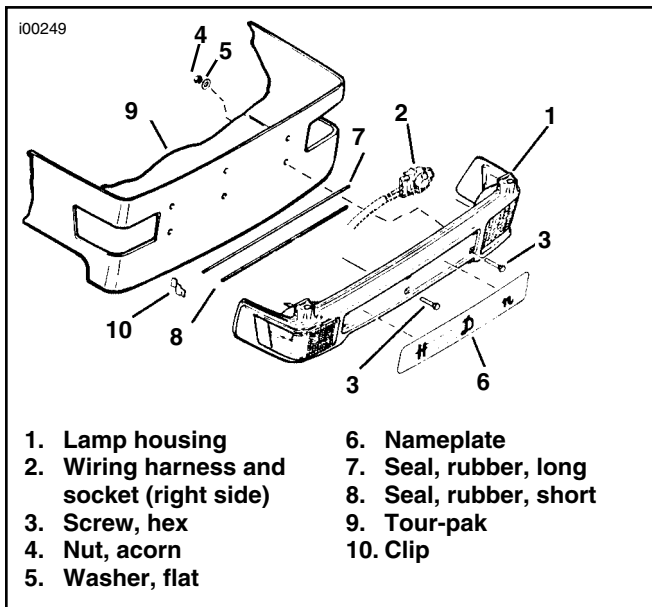

Figure 2. Wrap Around Light Assembly
8. If pockets are glued to backside of tour-pak, carefully pull the pocket piece free of tour-pak wall and discard. See Figure 2. Remove left lamp socket (2) from lamp housing (1) by depressing locking tab and rotating downward in direction of wire leads. Remove right lamp socket (2) from lamp housing (1) by depressing locking tab and rotating upward in direction of lead wires. Place lamp housing (1) in openings and press in tightly around both corners. Check to be sure there is clearance between each opening and lamp housing around entire perimeter. If there is interference, the housing will not fit correctly. Enlarge any interference area with a file.
13. See Figure 2. Insert the six hexagon screws (3) through holes in lamp housing (1) and tour-pak (9). From inside tour-pak, place a flat washer (5) on each screw and thread on an acorn nut (4). Tighten each nut (4) snugly, but do not tighten to where heads of screws turn inside square seat in lamp housing.
16. See Figure 2. Strip paper backing from Harley-Davidson name plate (6) and press into place over screw heads at lamp housing (1).